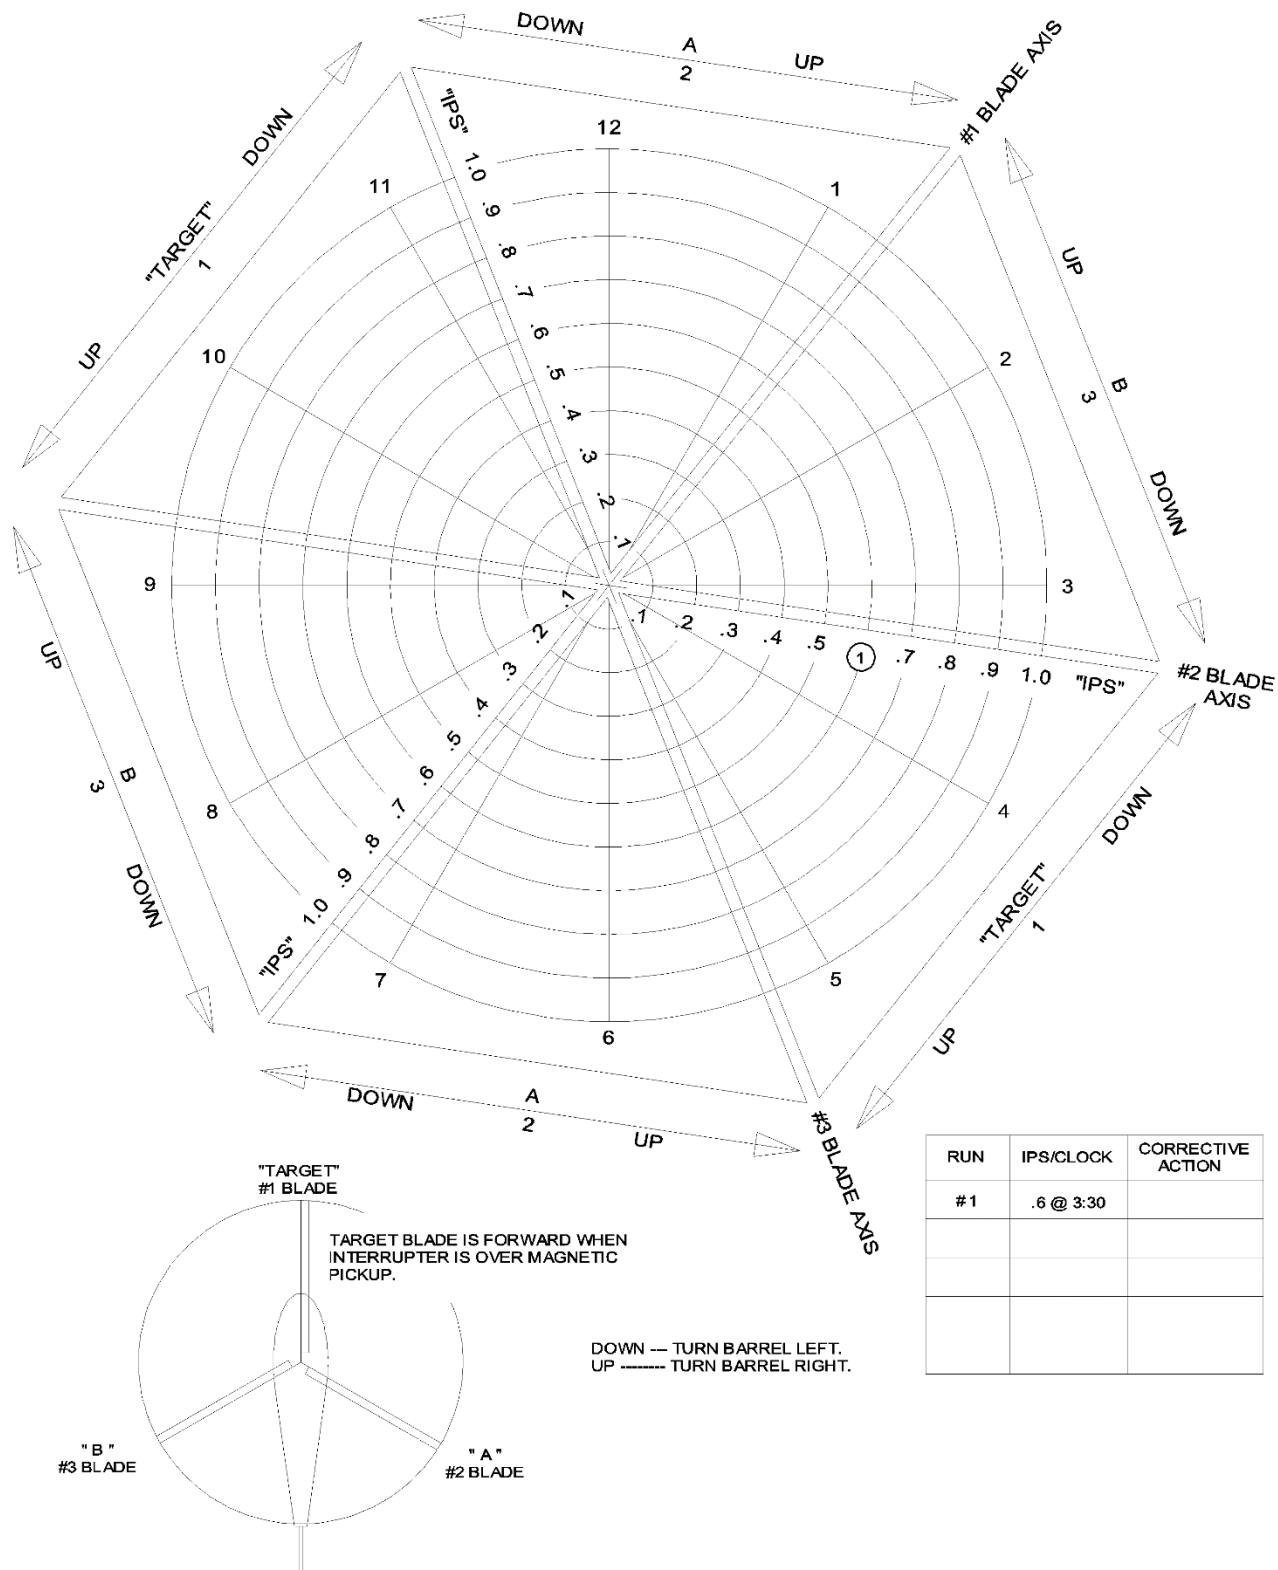

Figure 12-6. Main Rotor Clock Angle Correction Example
- (1) A reading of .6 ips at a clock angle of 3:30 for the first hover run is plotted on the polar chart (Figure 12-6).